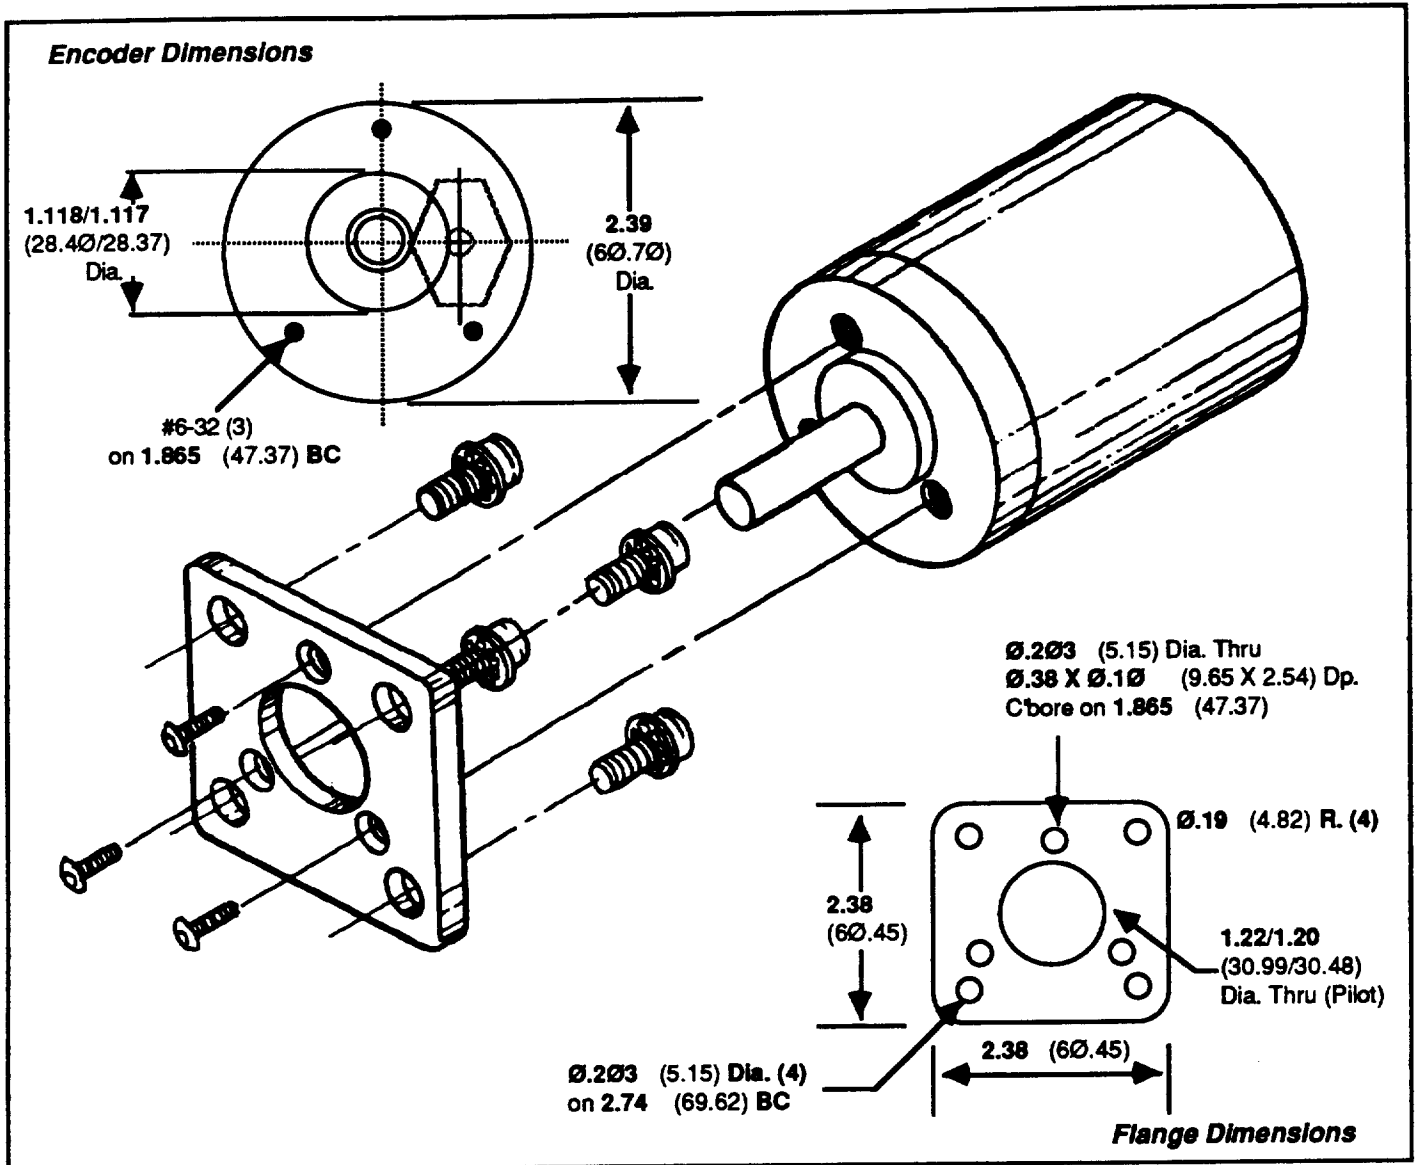

Figure 3-4. -F Option for Flange Mounting
- 2 The -F option is available for flange mounting. This comes connected to the AR23 providing square construction with unthreaded bolt holes on a 2.741" bolt circle. Refer to Figure 3-4.